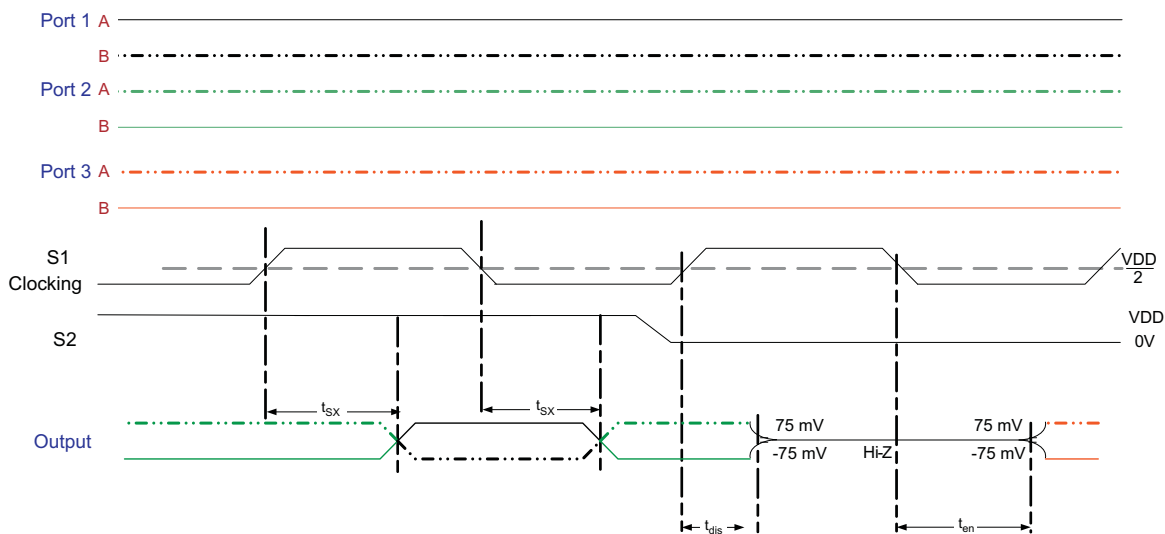

Figure 6. TMD5 Outputs Control Timing Definitions
A. Channels 2, 3, 4, $V_{CC} = AV_{CC} = 3.3\text{ V}$, $T_A = 25^\circ\text{C}$, $R_{VSADJ} = 4.02\text{ k}\Omega$, See Figure 6
A. Channel 1, $V_{CC} = AV_{CC} = 3.3\text{ V}$, $T_A = 25^\circ\text{C}$, $R_{VSADJ} = 4.02\text{ k}\Omega$, See Figure 6
See Figure 6, Clock Channel = 185.6 MHz, Data Channel = 1.856 Gbps
See Figure 6, Clock Channel = 222.8 MHz, Data Channel = 2.228 Gbps